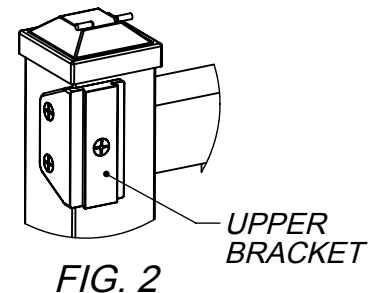

FIG. 2
**STEP 2:** Install the UPPER BRACKET using (3) Flat-Head Screws as near to the top of the Fence Post as possible. (Fig. 2)